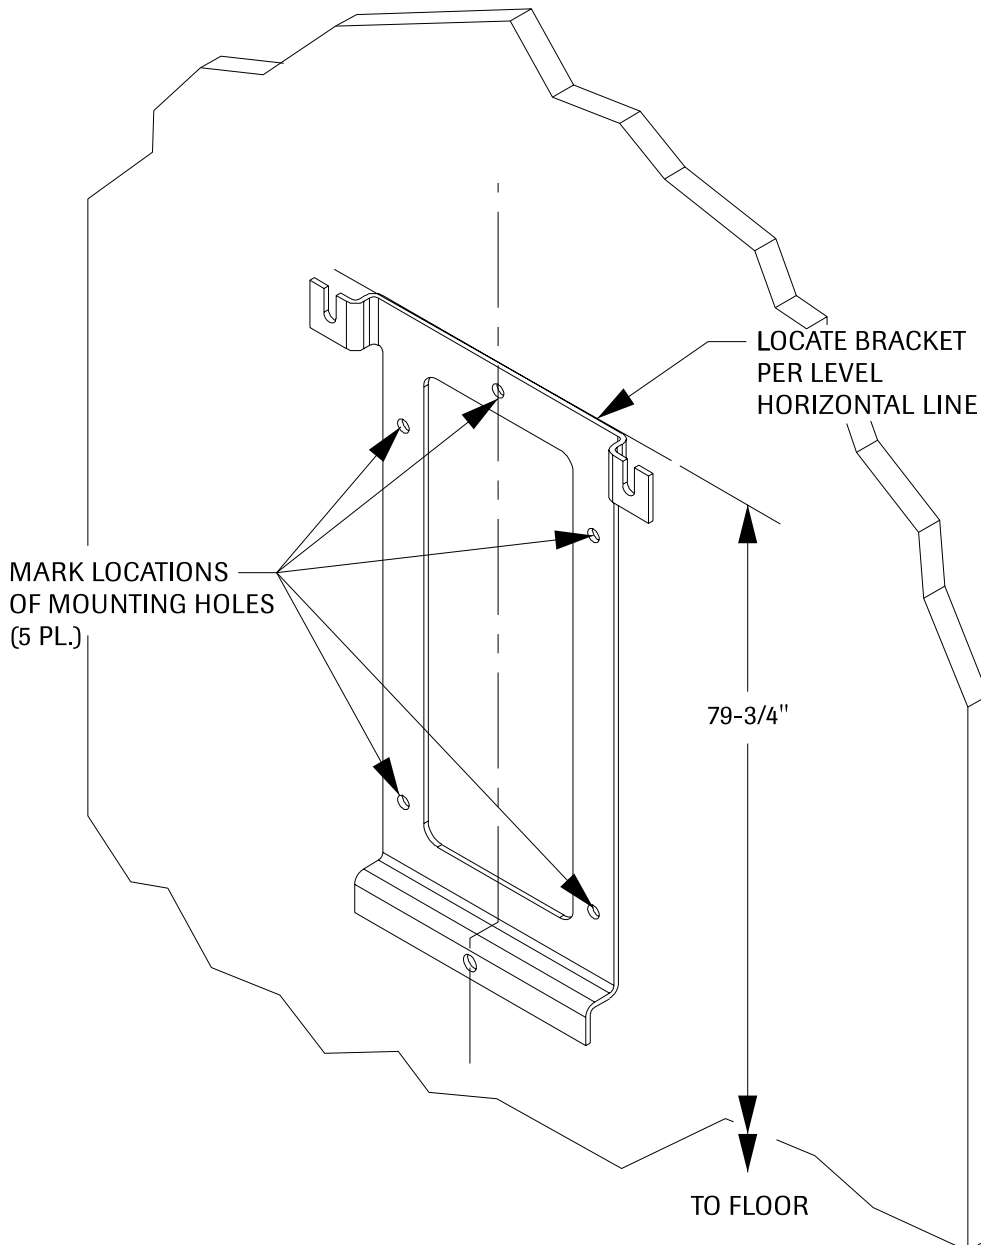

Figure 2
- Place bracket flat against wall as shown in Figure 2 and align top of bracket with level horizontal line. Vertical center line of bracket will be vertical center line of installed manifold. Mounting top of bracket at 79-3/4" height will net a 61" height from center of header to finished floor.